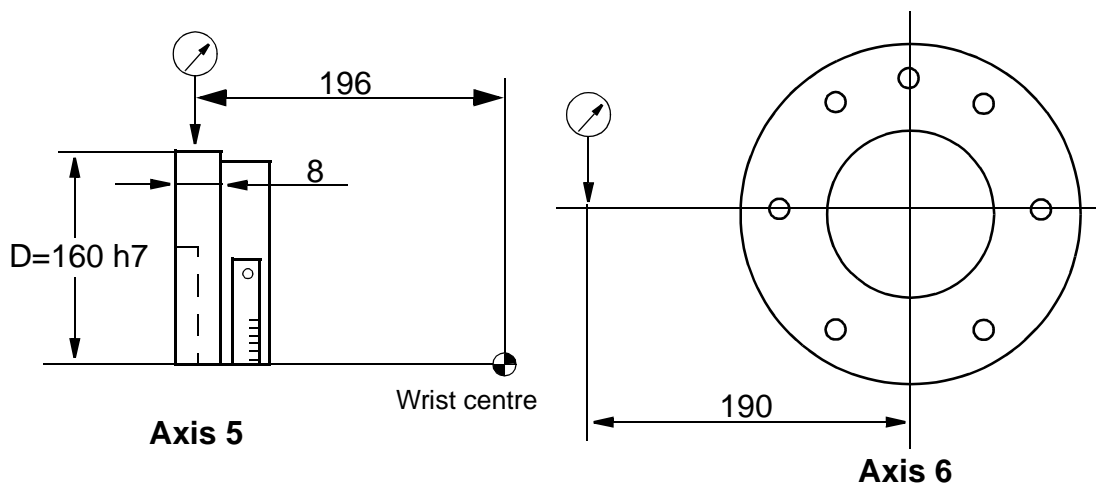

Figure 4 How to measure the play in the wrist.
3. Mount a PEK dial indicator with a magnetic foot on the fixing plate. Measure against the front part of the turning disc, at D=160 mm, B= 8 mm. See Figure 4 How to measure the play in the wrist.
2. Measure with a PEK dial indicator against the tool. See Figure 4 How to measure the play in the wrist..